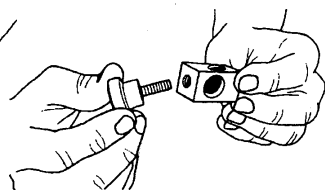
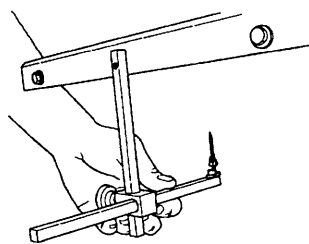
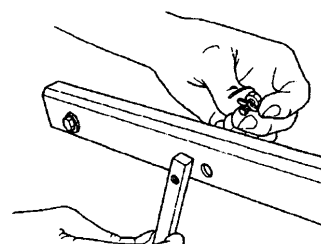

Fig. 4
Fig. 5
Fig. 6
5. Thread the knob (10) into the side of the clamp (9), as seen in Fig. 4. Do not tighten the knob yet.
6. Insert the vertical short arm (1) up through the clamp hole closest to the knob. The hole in the vertical arm should be opposite the knob.
7. Insert the cutter arm (8) through the remaining hole in the clamp (9), making sure the center pin is pointing up and be oriented, as shown in Fig 5 . Tighten the knob, and then use the 1/8" Allen wrench to tighten the setscrew (11).
8. Fig. 5 also shows the Circle Cutter held in position to be attached to the Extension. Attach the assembled Circle Cutter to the middle of the Bandsaw Table Extension with a washer (3) and bolt (2), as shown in Fig. 6. Finger tighten.